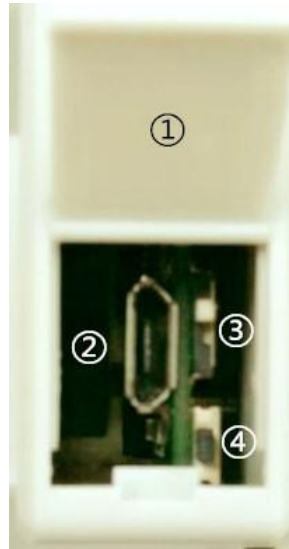

Figure 4.1 Physical Diagram of Kernel Refresh Interface
GCAN-PLC provides a core refresh USB interface, a running switch and a reset button. The physical drawing after opening the cover is shown in Figure 4.1.
In Figure 4.1, ① is the USB interface cover. The default is closed. You can gently pry open the cover plate by using the attached screwdriver to close the gap under the cover plate.
② Micro-USB interface, which is the refresh interface of the kernel. GCAN-PLC programmable logic controller uses Micro-USB data line as download line of PLC core files. You can connect GCAN-PLC to USB-A interface of PC through Micro-USB cable
③ To run/stop the dial switch, and ④ to reset the button.